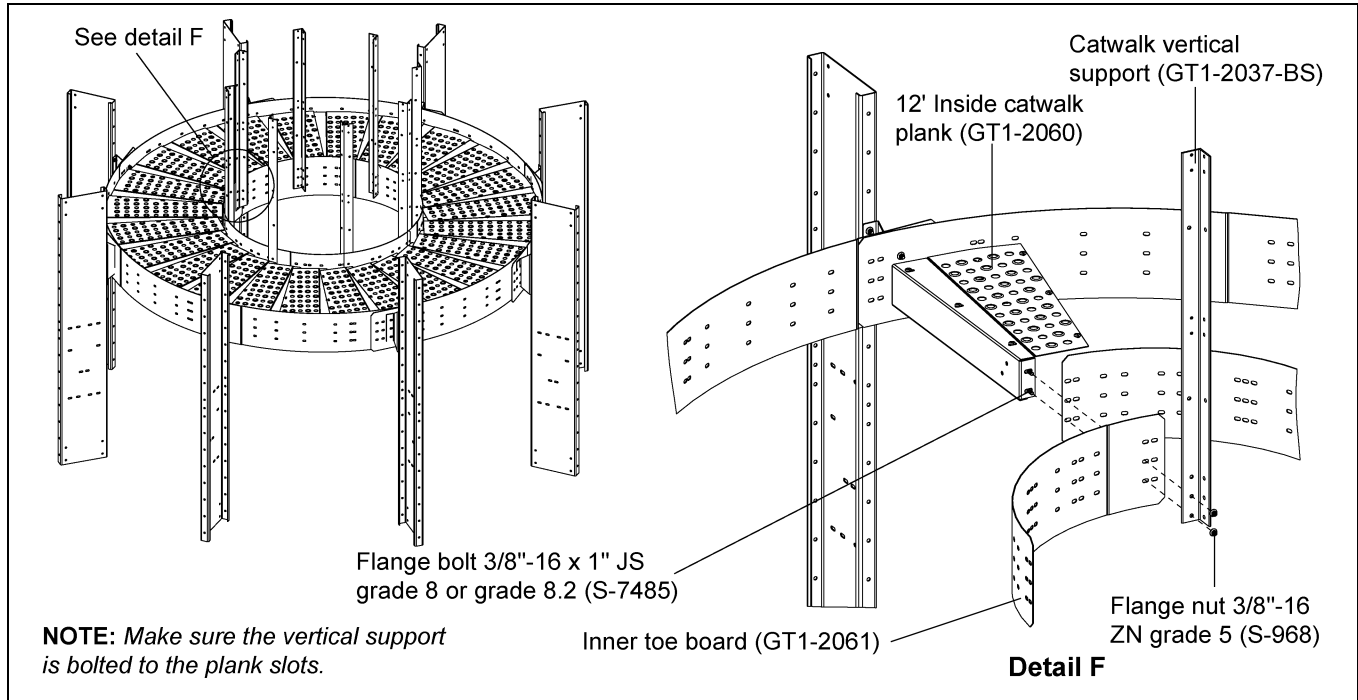

Figure 5J
1. Install all the inner toe boards (GT1-2061) to the planks (GT1-2060). (See Figure 5J.)
2. When installing the inner toe board with planks, install the catwalk vertical support (GT1-2037-BS) simultaneously at proper locations using 3/8"-16 x 1" JS grade 8 or grade 8.2 bolts (S-7485) and 3/8"-16 ZN grade 5 nuts (S-968). (See Figure 5J.)